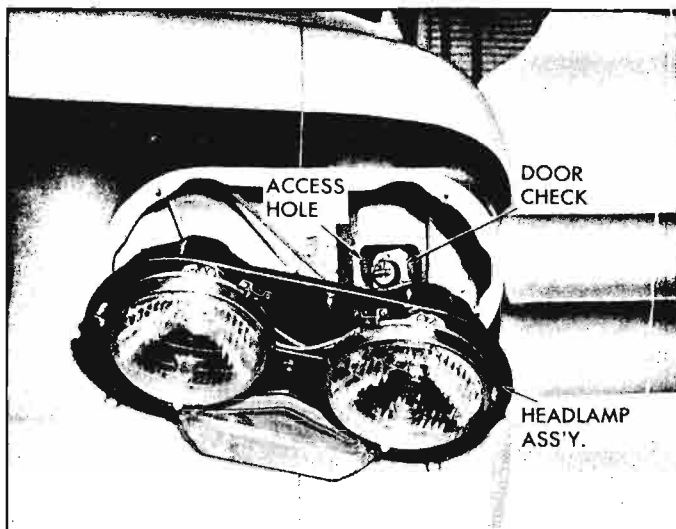

Fig. 10-43a—Removing Door Check
3. Remove five headlamp assembly retaining screws and remove headlamp assembly (fig. 10-43a).
5. Remove door check assembly (fig. 10-43a) through access hole behind headlamp assembly.